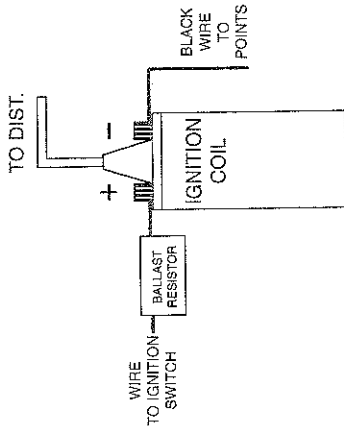

FIGURE 2
5. The **red** wire from the *Ignitor* must be connected to the **positive (+)** side of the coil, or a 12-volt switching source. The black wire must be connected to the negative (-) side of the coil. (See Figure 2 & 3).
11. You will be trying to get an air gap between approximately 0.010" at the low end and no more than 0.060" at the high end. With the distributor shaft pulled down, rotate the shaft and make sure the magnet ring does not rub against the *Ignitor* module. If it happens to rub against the *Ignitor* module, carefully bend the Ignitor module down until it does not rub. Bend with pliers at the bracket so as not to loosen the rivets. If there is a gap, rotate the distributor shaft and measure the largest air gap (12) between the face of the magnet ring and the face of the Ignitor module. If you have an Oldsmobile, and the largest gap is no more than 0.060", go to step #14. Otherwise, continue with the next step.
12. If the gap is greater than 0.060", record what it is. The gap is adjusted by installing thin washers (13) over the 6/32 studs (8) between the magnet ring and advance mechanism plate. It is necessary to remove module, rotor, and ring to do this. The washers are 0.032" thick. From the gap measurement recorded, calculate how many washers are needed to bring the lowest part of the magnet ring to approximately 0.010" from the *Ignitor* module. Install the required washers. Always be sure that there is the same number of washers on each side. If you have an Oldsmobile, go to step #14. Otherwise, go to the next step.
13. Now push the distributor shaft up and rotate. If the highest point between the *Ignitor* module and the magnet ring is greater than 0.060", you will need to place shims (15) between the gear and distributor housing to prevent the gap from going over 0.060".
21. For installations that do not use a primary ballast resistor, connect the *Ignitor* red wire to the positive (+) side of the ignition coil. (See Figure 2).